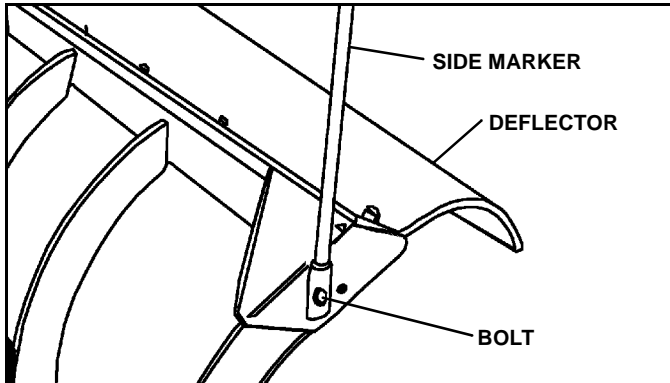

Figure 1-18
16. Install Blade Guides (blade side markers) to holes in outside blade ribs, secure using hardware supplied with Blade Guide Kit. (See Figure 1-18)